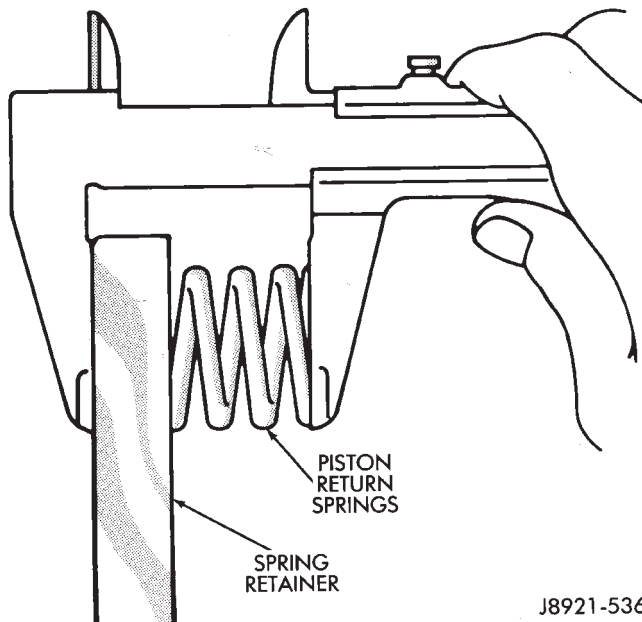

Fig. 6 Measuring Second Brake Piston Return Springs
(7) Remove and discard brake piston O-rings.
(8) Measure free length of piston return springs with springs mounted in retainer (Fig. 6). Length